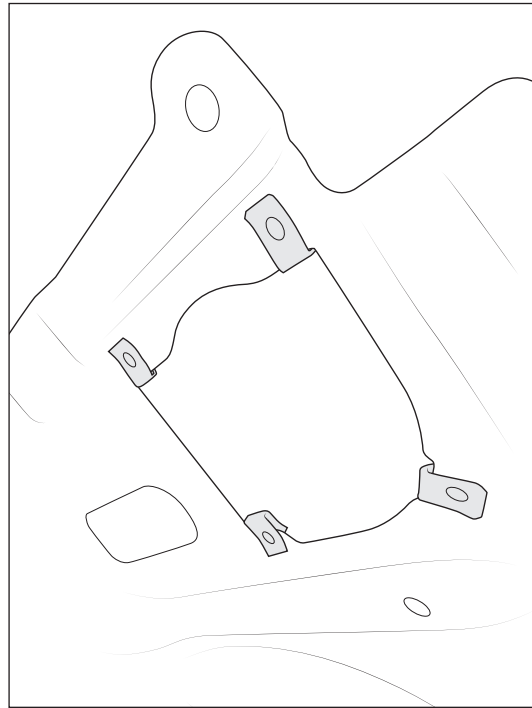

Figure 1
1. Install four M8 U-Nuts onto the transfer case skid (fig. 1).